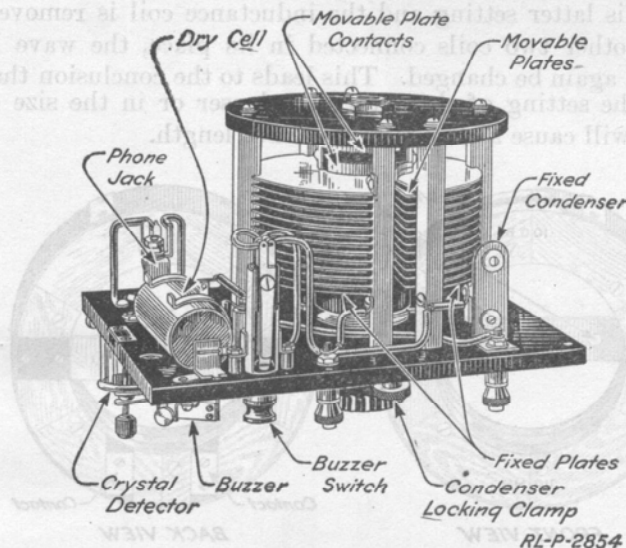

Fig. 21.—Panel of set box BC-37 removed to show interior parts.
2. Take the three coils out of the right-hand compartment of the box. Note on just which coils the letters A, B, and C appear. Look in the cover of the box and locate the clamp by which the coils are fastened in place. Using this clamp, fasten coil A in place. (See Fig. 21.) Be careful that the coil is fastened firmly. Then remove coil A and try the other two coils in position, making sure that they fit.